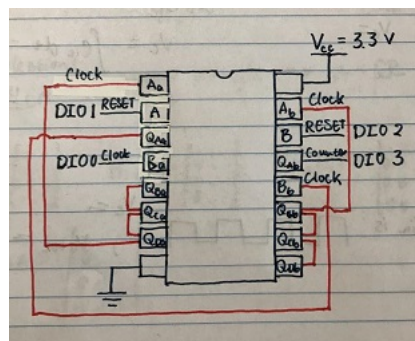

Figure 29: Divide by 100 on chip circuit connections
- This is explained in the diagram in Figure 29.